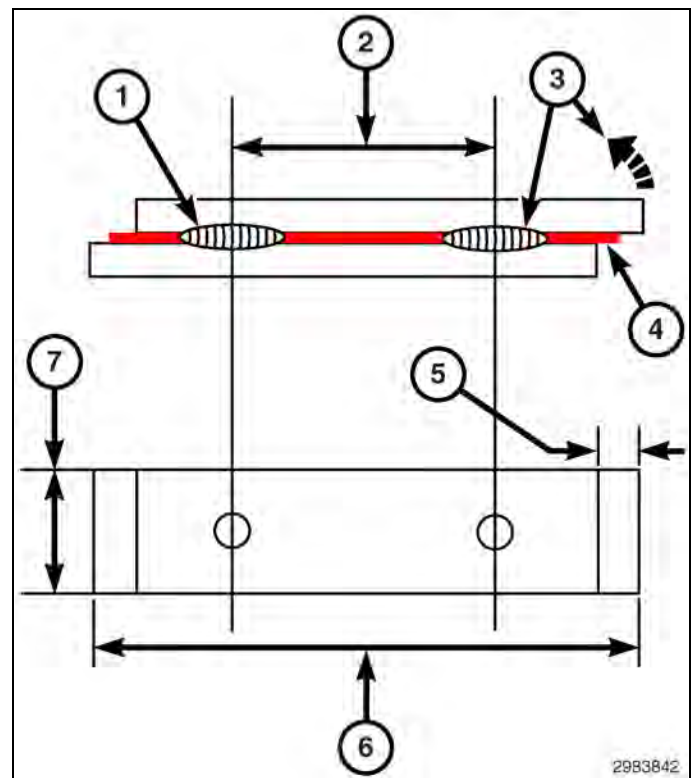

Fig. 12 Weld Coupon
3. Using the procedure outlined, (Fig. 12), prepare the test coupons.
8. As shown in (Fig. 12), place first weld at a position at least 12.5mm. (0.5 in.) away from end weld coupons. Then make the second weld. The weld spacing should be the same distance as the original welds or the closest existing weld, whichever is the least on the vehicle being repaired.